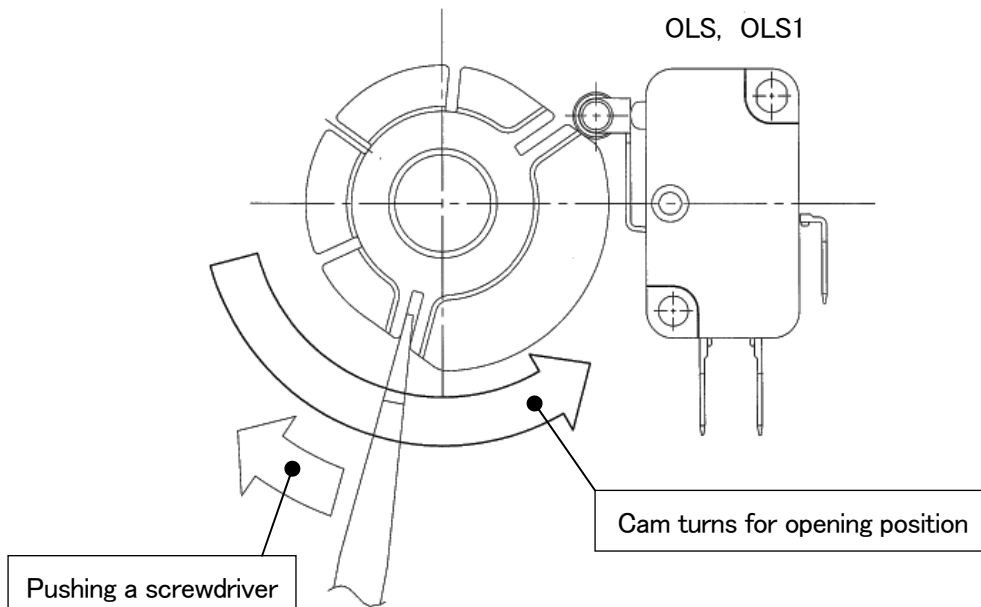

Fig. 36
- ⑨ Loosen cover bolts and remove a housing cover.
- ⑩ Adjust the positions of OLS and OLS1 limit switches. Securely insert a 0.7mm to 0.8mm flat tipped screwdriver into a slit of a limit switch cam and slowly push it to move clockwise for adjustment. As shown in Fig.36, this makes the cam rotate counterclockwise (viewed from the top), contact a limit switch and stop. DO NOT turn it reversely, as it may loosen a control shaft of an actuator.